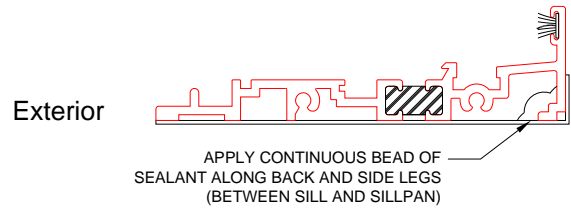

Figure 14:
1. Attach sill to the sillpan with a compatible sealant as shown in Figure 14.